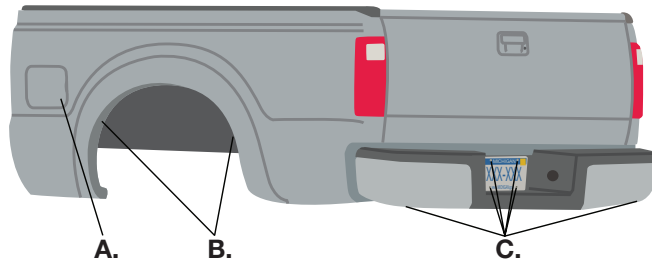

Fig. 16
1. Begin by choosing locations for the Schrader valves (Fig. 16) and drill a 5/16" (8mm) hole, if necessary.